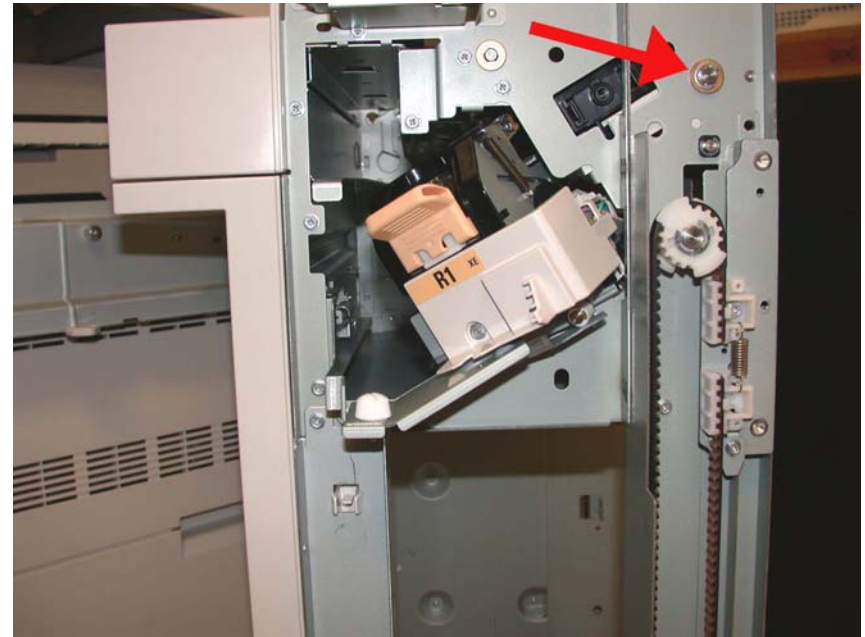

Figure 1 Removing the E-ring and brass bearing
11. Preparing to remove the Eject Roller Shaft (Figure 1).